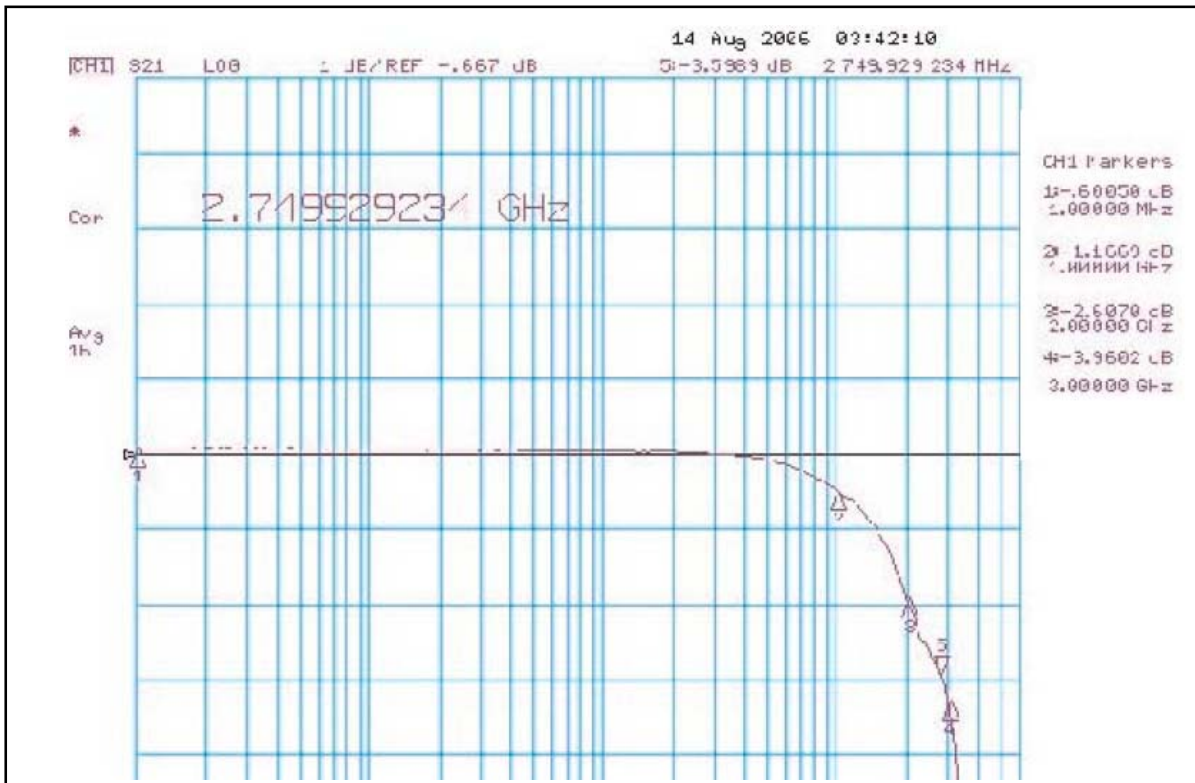

Figure 5: Bandwidth/Insertion Loss of PI3HDMI412FT-B
- PI3V512 and PI3HDMI412FT-B perform well in insertion loss. Figure 5 shows the insertion loss of PI3HDMI412FT-B, and PI3V512 has similar performance.
The excellent bandwidth/insertion loss (see Figure 5) of PI3HDMI412FT-B ensures the performance of the LVDS application using PI3HDMI412FT-B. The bandwidth/insertion loss in figure 5 was measured using 0V ground and 1.8V Vdd.